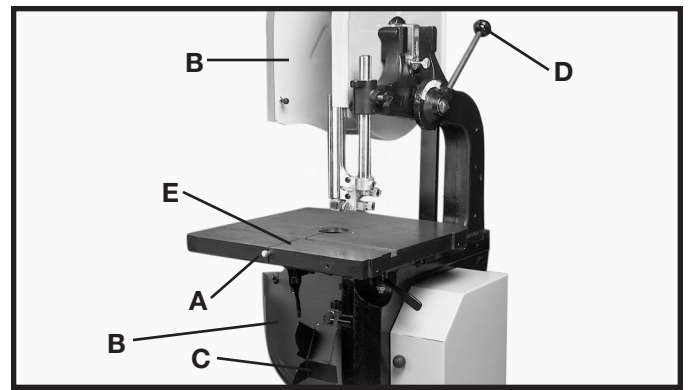

Fig. 31
1. Remove the table pin (A) Fig. 31 from the table.
2. Open the two wheel guard doors (B) Fig. 31, and the blade guard door (C).
3. Make sure the quick tension lever (D) Fig. 31, is positioned to the right of the machine, to relieve tension as shown.
4. **NOTE: CHECK BLADE TO BE SURE TEETH WILL POINT DOWN TOWARD TABLE WHEN INSTALLED. IF NOT, TURN BLADE INSIDE OUT.** Slide the band saw blade, (teeth facing out), through the slot (E) Fig. 31, in the band saw table.
6. Replace the table pin (A) Fig. 31.
7. Close the two wheel guard doors (B) Fig. 31, and the blade guard door (C).